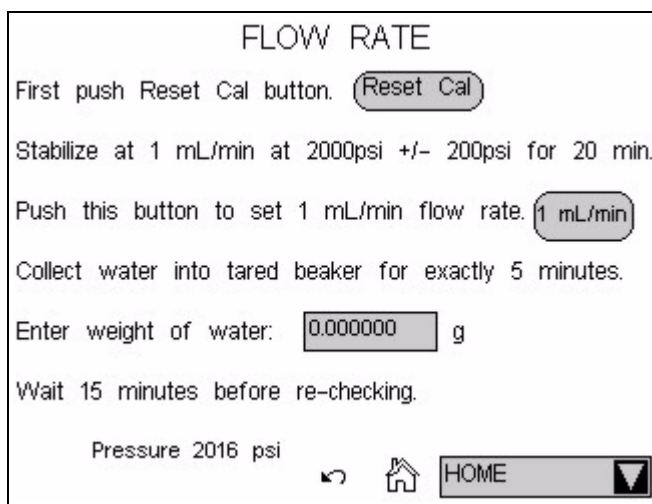

Figure 5-5. Flow Rate Page
1. Open the ICS-2100 Wellness Panel in Chromeleon (see Section 5.1.1), or open the ICS-2100 touch screen **FLOW RATE** page (see Figure 5-5).